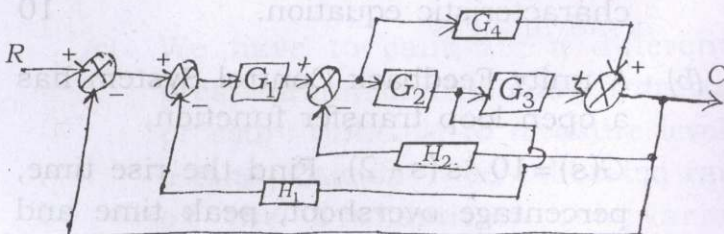

Figure : 01
1. (a) Using block diagram reduction technique find closed loop transfer function of the system whose diagram is shown in Figure : 01. 10